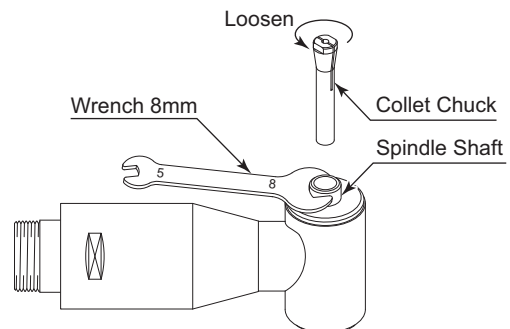

Fig. 4
- ② Place the provided 8mm wrench on the spindle shaft, and turn the top of the collet chuck counter-clockwise to remove the collet chuck (Fig. 4).
- ③ Install the new collet chuck into the Spindle by turning it clockwise.